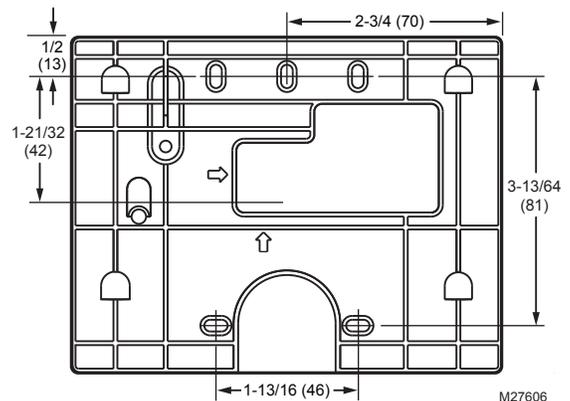

Fig. 8. 833-3725 wallplate dimensions in in. (mm).
2. Use the device wallplate as a template to mark the location of three or four mounting screw holes. See Fig. 8.